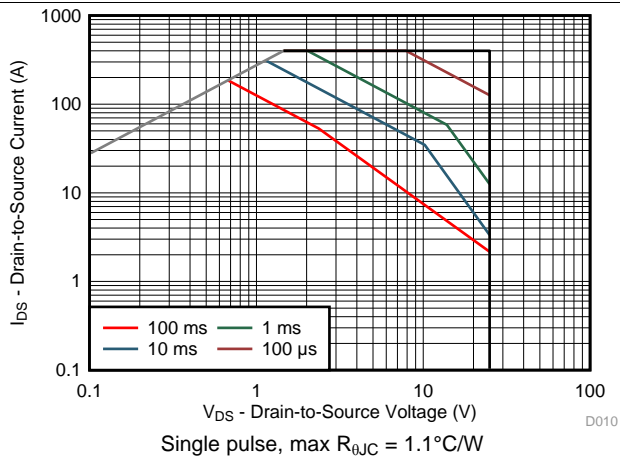

Figure 10. Maximum Safe Operating Area
• Changed the SOA in <a href="#">Figure 10</a> to reflect measured data .....	6
• Changed <a href="#">Figure 10</a> text From: $R_{\theta JA} = 92^\circ\text{C/W}$ To: Typical $R_{\theta JA} = 93^\circ\text{C/W}$ .....	5